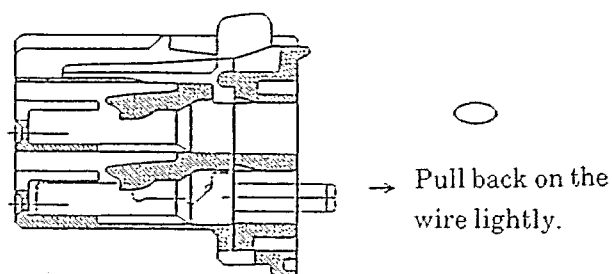

Fig. 3 When contact is correctly locked.
- Verify that the terminal has been firmly locked to the housing lance. If the crimp is located at the center of the retainer during contact mounting as shown in Fig. 2, contact locking is not engaged rightly, causing the contact to slip out. Push the contact into the lance as shown in Fig. 3. Locking it to the housing lance correctly will make a clicking sound.